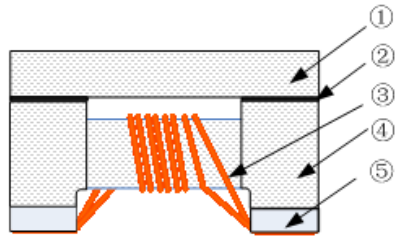
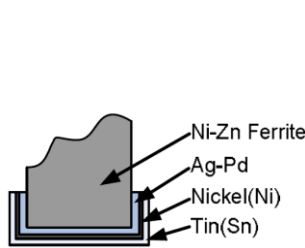

Fig.4-1
Fig.4-2
a) Structures: See Fig.4-1, Fig.4-2 and Table 4-2.